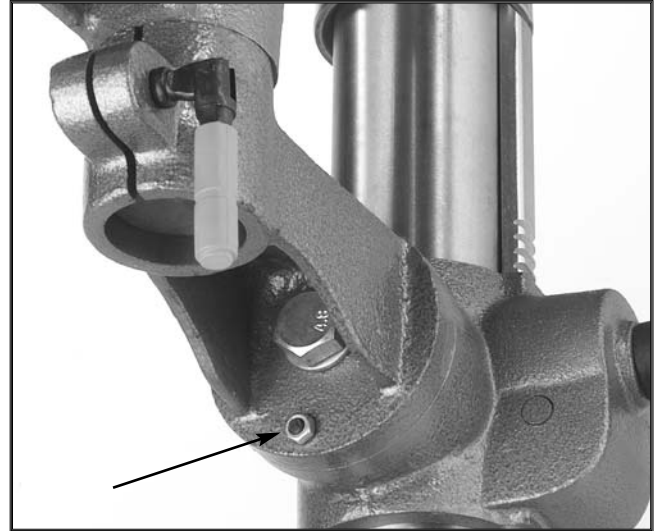

Figure 13. Locating pin and nut (G7946).
1. Turn the nut shown by the arrow in **Figure 13**, in a clockwise direction. This will draw the location pin out of the casting. Once loose, pull out the pin and nut, and set them in a safe place until needed.
2. Loosen the large bolt in the center of the support bracket. See **Figure 13**.